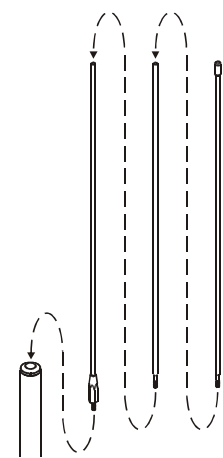

Figure 2
2. Referring to Figure 2 and the following chart, connect the radiating elements according to the operating band, then screw the radiating element securely to the top of the coil assembly of the **ATAS-25**.